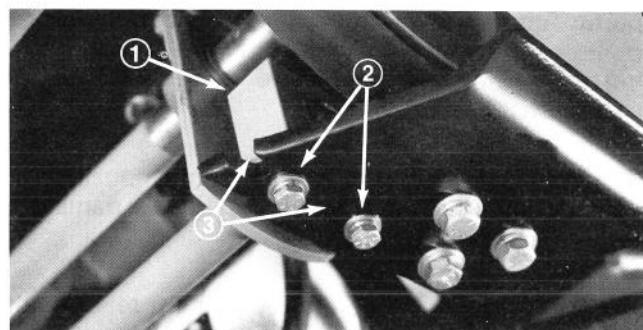

Figure 78
4. Remove two capscrews, and lockwashers securing bearing hub and shim to bracket (Fig. 78).
Note: If belt stretches, pivot block may be repositioned on bracket using additional set of mounting holes. Remove capscrews, lockwashers and flatwashers securing pivot block and shim to bracket. Relocate pivot block and shim and resecure to bracket with fasteners removed (Fig. 78).